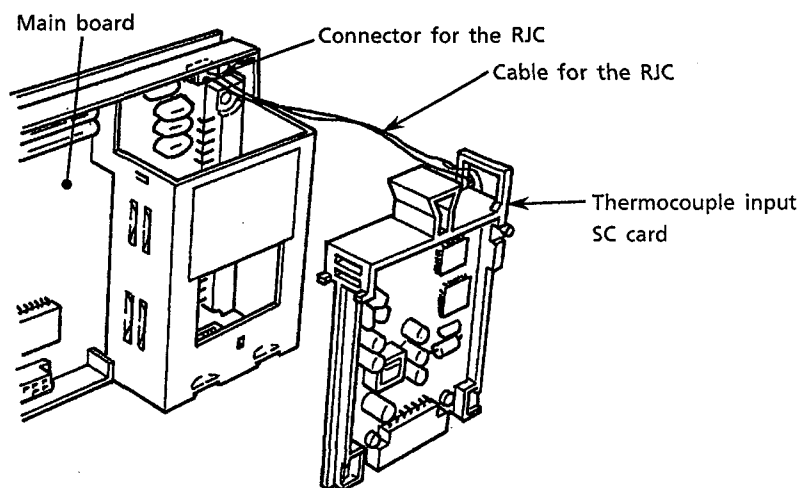

Figure 11.7 Detaching the Connector for the RJC
- ③ For the thermocouple input SC card, disconnect the connector for the RJC (see Figure 11.7).